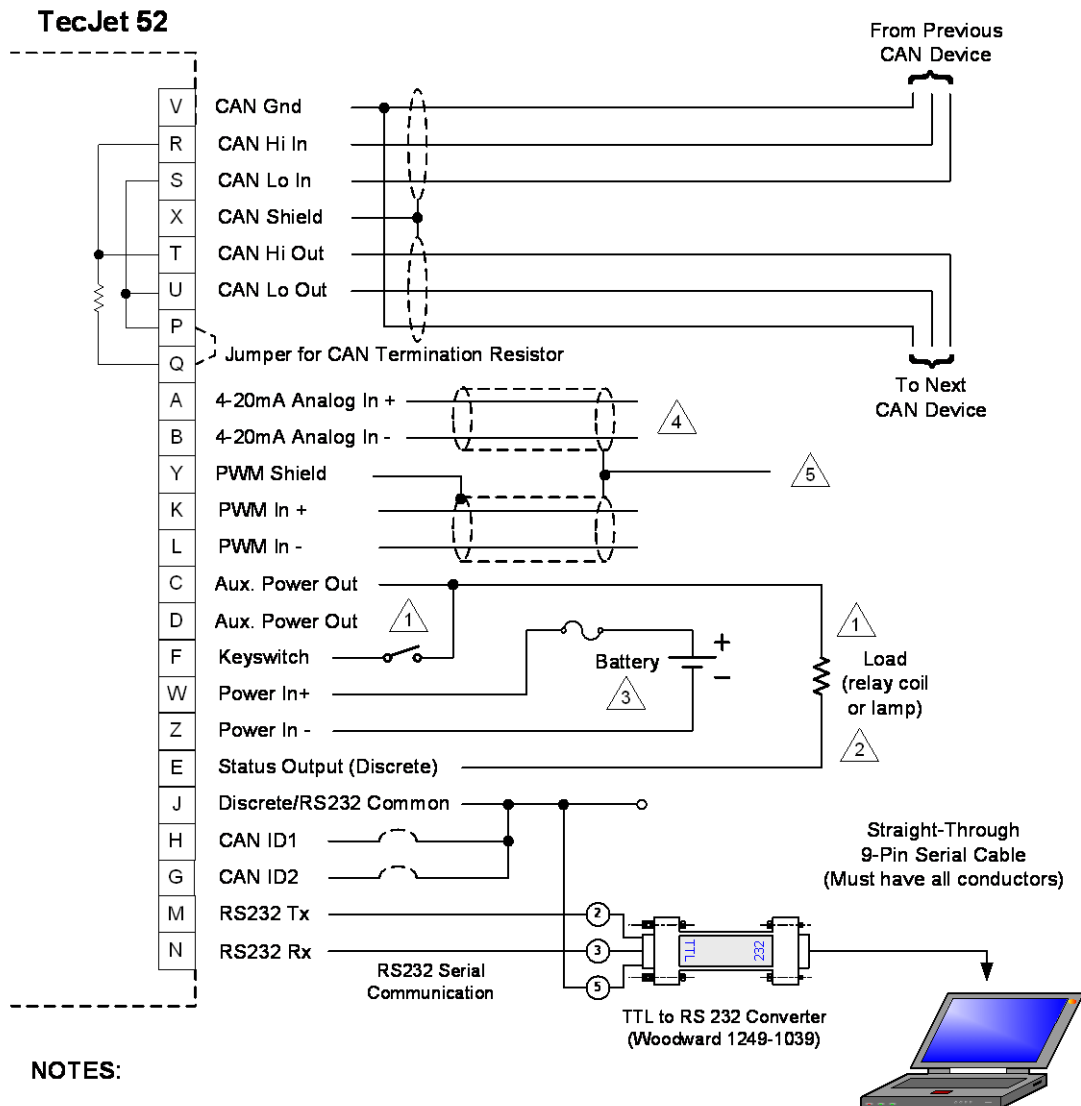

Figure 2-1. TecJet 52 Wiring Diagram
**Do not connect any cable grounds to “instrument ground”, “control ground”, or any non-earth ground system. Make all required electrical connections based on the wiring diagram in Figure 2-1.**
Shielded wiring is generally not required. The use of cable with individually shielded-twisted pairs is only required where indicated by the control wiring diagrams (Figure 2-1). However, some users may elect to run shielded wires for some I/O signals. Cable shields must be terminated as indicated in the control wiring diagram using the installation notes described below. DO NOT attempt to directly ground the shield at both ends since an undesired ground loop condition may occur. The TecJet 52 CAN shield connection pin is grounded through a high frequency capacitor (not directly grounded) and must be grounded in the wiring harness.